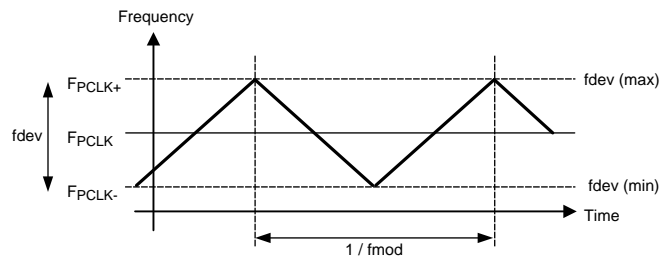

Figure 18. Spread Spectrum Clock Output Profile
| f dev  | Spread Spectrum Clocking Deviation FrequencyLVCMOS Output BusSSC[3:0] = ON (Figure 18) (1) | 25 MHz – 100 MHz                          |     | ±0.5% to ±1.5% |      |      |